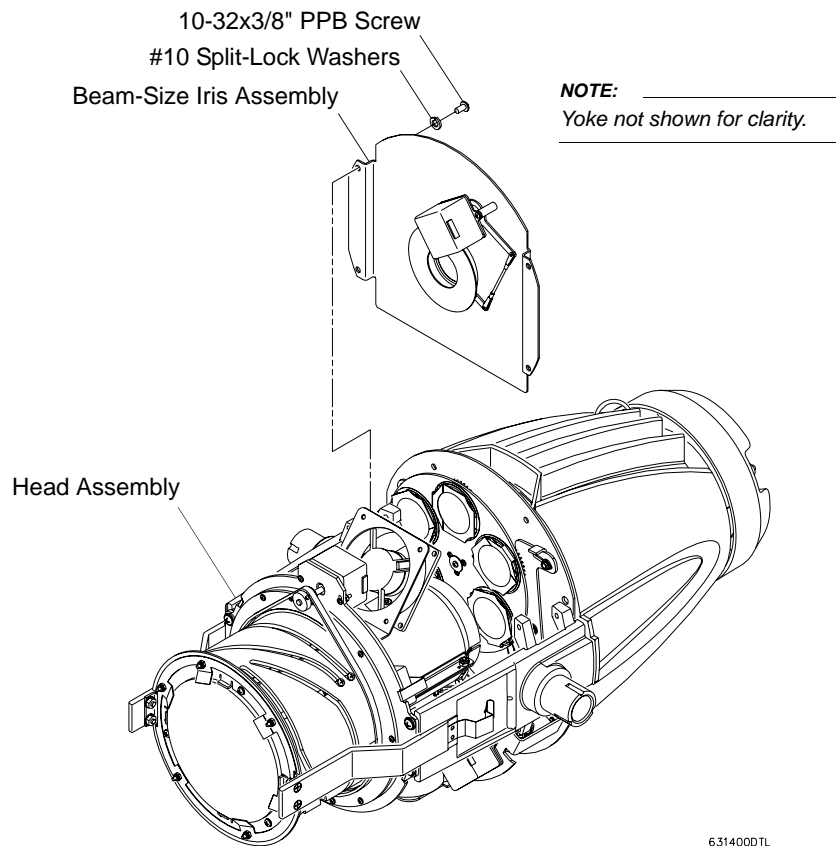

Figure 2-20: Beam-Size Iris Assembly Replacement
- Step 3. At beam-size iris assembly, disconnect motor connectors (Figure 2-20).